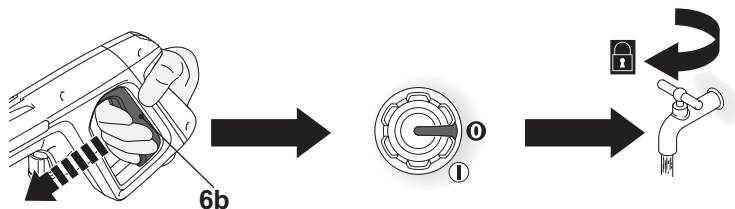

Fig. 23
- > Release the trigger (6b) (Fig. 23).